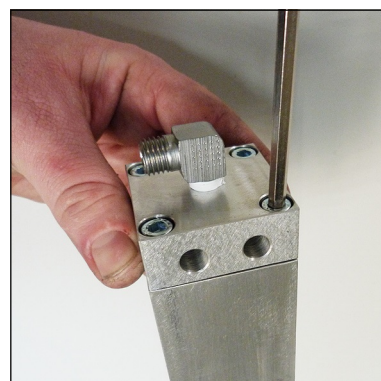

Fig. 2 - Loosen mounting screws of the filter cover
- Loosen mounting screws of the filter cover (Fig. 2).
- Place filter cover, fix and tighten mounting screws of the filter cover (Fig. 2).